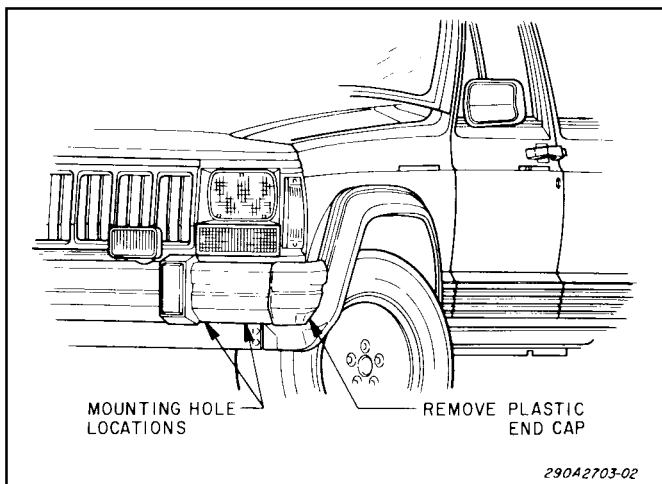

Figure 2.
3. See figure 2. Locate the two existing holes on the bumper's underside. The holes, used for mounting the speaker assembly, are approximately aligned with the driver side headlight.
4. See figure 2. To facilitate speaker mounting, remove and retain the driver side plastic end cap from the bumper.